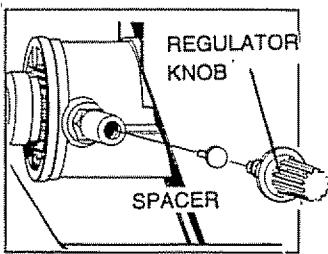

FIG. 16
- Replace the spacer so the protuding part goes in first (Fig. 16).